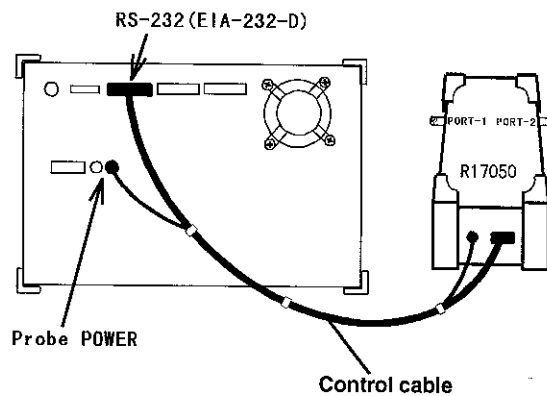

Figure 2-3 Connecting the Control Cable
1. Connect the control cable between the instrument and network analyzer. There are two Probe POWER connectors on the network analyzer. Either of them can be used (see Figure 2-3).
1. Connect the control cable between the instrument and network analyzer.(see Figure 2-3).
2. Connect the control cable between the instrument and network analyzer.(see Figure 2-3).